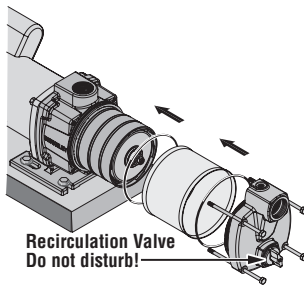

Figure 26
8. Reinstall the sleeve on the bracket and the pump suction body in the sleeve. Be sure that you do not pinch or damage the O-Ring. See Figure 26.